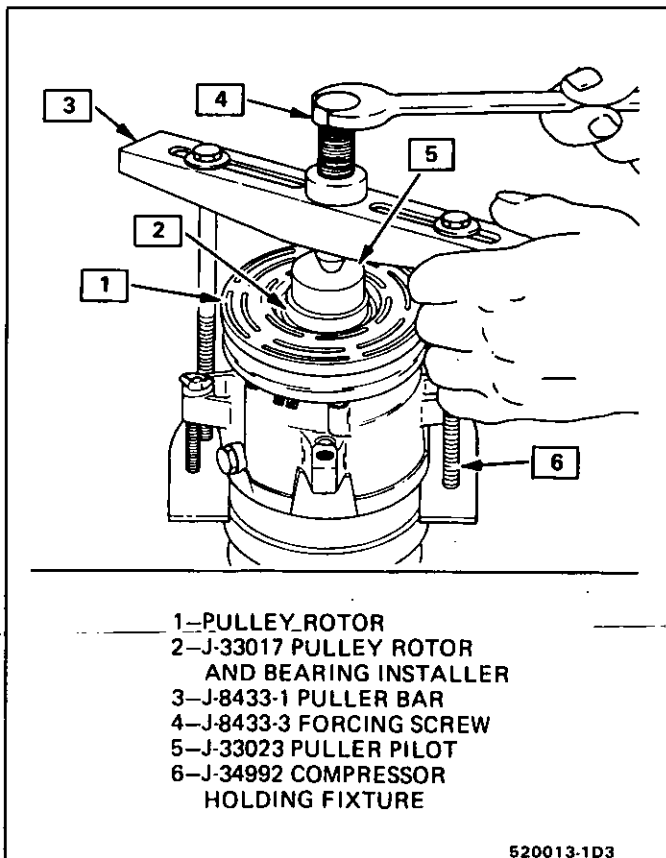

Fig. 17 Installing Pulley Rotor and Bearing Assembly
5. With the compressor mounted to the J-33026 holding fixture, position the rotor and bearing assembly on the front head (Fig. 17).
6. Position the J-33017 pulley rotor and bearing installer and J-33023 puller pilot directly over the inner race of the bearing (Fig. 17).
7. Position puller crossbar J-8433-1 on the puller pilot J-33023 and assemble the two J-34992-2 through bolts and washers through the puller bar slots and thread them into the J-34992 holding fixture (Fig. 17). The thread of the through bolts should engage the full thickness of the holding fixture.
8. Tighten the center screw in the J-8433-1 puller crossbar to force the pulley rotor and bearing assembly onto the compressor front head (Fig. 17). Should the J-33017 pulley rotor and bearing installer slip off direct in-line contact with the inner race of the bearing, loosen the J-8433-1 center forcing screw and realign the installer and pilot so that the J-33017 installer will properly clear the front head.